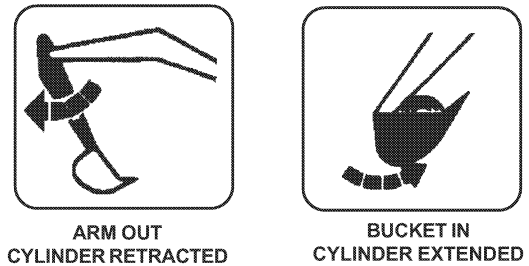

FIGURE 3.2
2. Fully extend the Bucket Cylinder. See Figure 3.2.
3. Fully retract the Arm Cylinder. See Figure 3.2.